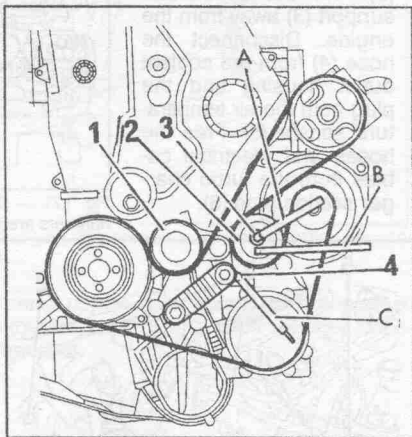
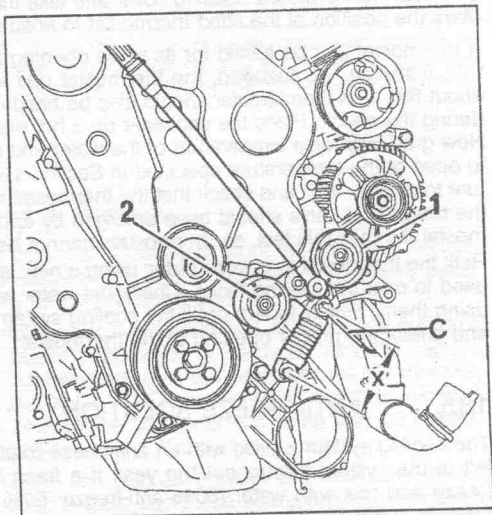

Fig. 1.73. — Details for the removal and installation of the drive belt. The special tools are marked with the letters, the numbers are referred to in the text.
Fig. 1.75. — Measure the dimension "X" (bottom right) to check if a drive belt can be re-used. Follow the description in the text.
Fig. 1.73 shows the layout of the drive belt on a DK5 engine with compressor for an air conditioning system. Note that a single belt with automatic tensioner is used. Various special tools are used in the workshop to set the automatic tensioner to the basic position, when the drive belt is replaced. The most difficult to improvise may be the tensioning spanner 5714-T.S. This is a lever with a square drive with a dimension of 6 mm across the flats. Also required is an angled 6 mm Allen key. A special setting tool (5714-T.Q) is two-ended. One end has a rod of 4 mm diameter, the other end of 2 mm. Two rods/pins of the specified diameter can perhaps be used, if you follow the instructions. Proceed as follows to remove the belt:
- Referring to Fig. 1.73, slacken the screw (3). The 6 mm Allen key (A) is required (special key 5714-T.R).
- Check that all rollers can be turned easily by hand and place the belt over the pulleys and rollers in accordance with Fig. 1.73. Make sure that the belt engages properly into the pulley grooves.
- Refer to Fig. 1.73 and operate the tensioner roller (2) with the special tool (B), i.e. the 6 mm square spanner, until the 4 mm rod/pin (C) can be removed.
- Hold the tensioner (2) in this position and tighten the screw (3) in the centre with the 6 mm Allen key. The torque is given with 3.2 kgm (23 ft.lb.), can however not be applied with the Allen key, i.e. you will have to estimate the value.
- The other side of the special tool (C) or the 2 mm rod/pin must now be inserted into the hole (4) of the automatic tensioner (1). If the tool cannot be inserted, re-adjust the tension from the beginning, as something is not right.
- Fit the belt in the manner described above. If the locking pin cannot be removed, use the  $\frac{3}{8}$  in. square drive and the extension as shown in Fig. 1.75 until the pin (C) can be withdrawn. As above, turn the crankshaft by 5 turns.
- Refer to Fig. 1.75. In the lower part of the illustration you will see the "X" between the two arrow heads. This must be measured. From the result you will find out, if the belt can be left in position, i.e. re-used, or must be replaced. If "X" is less than 98 mm, the belt is correctly tensioned and the job is done; if the dimension exceeds 98 mm, remove the belt and replace it. The belt is then refitted as described above.